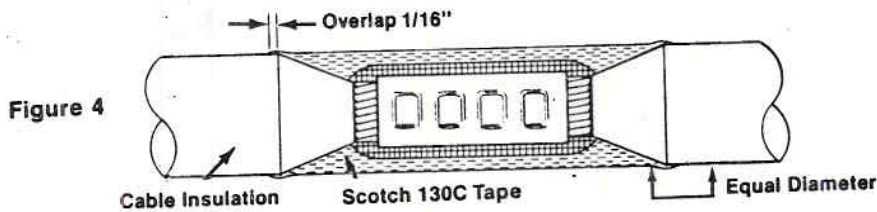

Figure 4
1. Smoothly fill in connector area with half-lapped, highly elongated Scotch 130C Splicing Tape; **BUILD UP TO DIAMETER OF CABLE INSULATION**, overlapping 1/16" (2 mm) beyond pencils. (Figure 4)